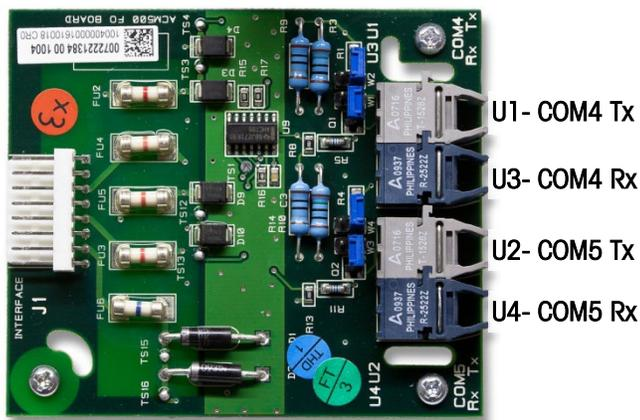
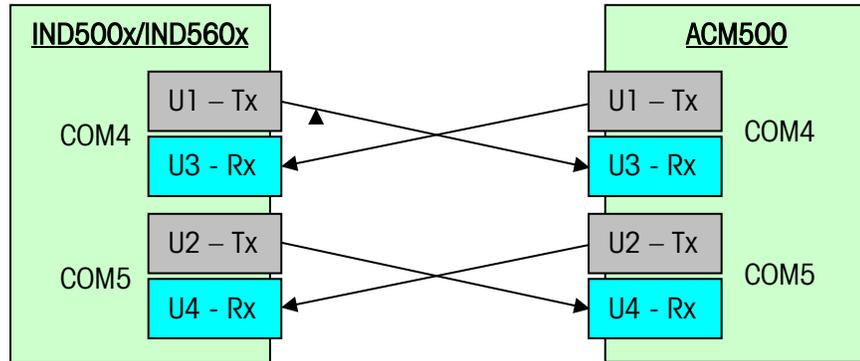

Figure 3-9: Fiber Optic Interface Board
Figure 3-10: Fiber Optic Cable Connection Diagram
3. When connecting fiber optic cables to COM4, determine which two fiber optic cables come from the COM4 port of the IND500x/IND560x. Plug the fiber optic cable from the IND500x/IND560x COM4 transmitter (U1) into the ACM500 COM4 receiver (U3) and the cable from the IND500x/IND560x COM4 receiver (U3) into the ACM500 COM4 transmitter (U1). Refer to Figure 3-9 to help identify the transmitters and receivers on the ACM500 fiber optic interface board. Figure 3-10 shows correct wiring between the IND500x/IND560x and the ACM500.
COM5 transmitter (U2) into the ACM500 COM5 receiver (U4) and the cable from the IND560x COM5 receiver (U4) into the ACM500 COM4 transmitter (U2). Figure 3-10 shows correct wiring between the IND500x/IND560x and the ACM500.